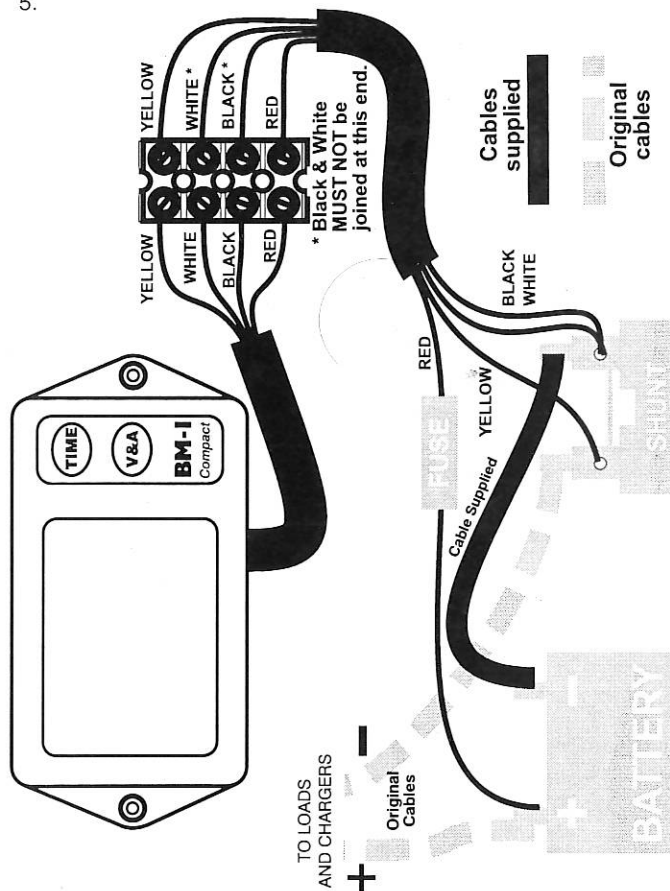

Figure 1 - Wiring Installation
3. Screw the unit to the panel and connect the wires to the terminal block provided. Connect the shunt cable to the display unit as shown on Figure 1, above, using the terminal block supplied. Be careful to connect the wires exactly as shown, noting that the black and white wires are joined at the shunt connection, and are connected separately at the instrument end of the cable.
7. Disconnect the NEGATIVE terminal from the battery and connect it to the shunt as shown in Figure 1.
8. Connect the Black and White wires and Yellow wire to the shunt as shown on Figure 1.
9. Connect the short link cable to the shunt and then to the negative terminal of the battery, as shown in Figure 1. Ensure it is positioned where it cannot come into electrical contact with other parts, and ensure it will remain dry and free from contaminants. Also note that the shunt can get warm when heavy currents flow, so ensure it is secured in a position where its heat cannot affect other parts. **TAKE CARE TO AVOID OVER-TIGHTENING THE CONNECTIONS TO THE SHUNT..**